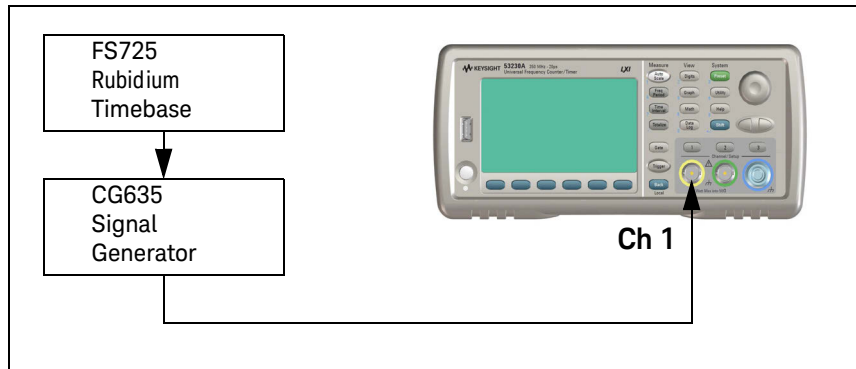

Figure 1-3 Absolute timebase test setup
- 1 Connect the equipment as shown in Figure 1-3.